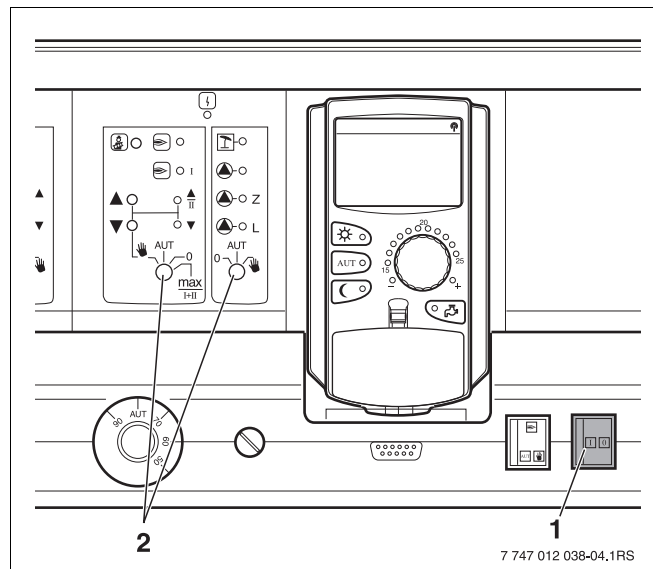

Fig. 8 ON/OFF switch
- Check that the control unit ON/OFF switch (→ Fig. 8, [1]) and the switches on the fitted modules (→ Fig. 8, [2]) are set to "I" and "AUT".
- Switch the control unit ON by setting the ON/OFF switch to "I" (→ Fig. 8, [1]).
- Switch the control unit OFF by setting the ON/OFF switch to "0" (→ Fig. 8, [1]).